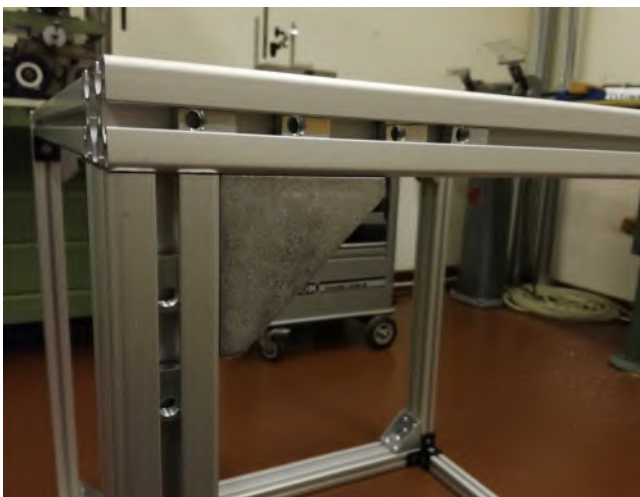

Figure 17: "Left" corner with inserted slot nuts
6.1. Insert 6 slot nuts into the horizontal (x-axis) aluminum frame on top (4 slot nuts on the left and 2 slot nuts on the right). Insert 2 slot nuts into the vertical (y-axis) aluminum frame on the left and 2 slot nuts on the right. You can insert them through the bottom and slide them to the top corner. For reference please see Figure 17 & 18.